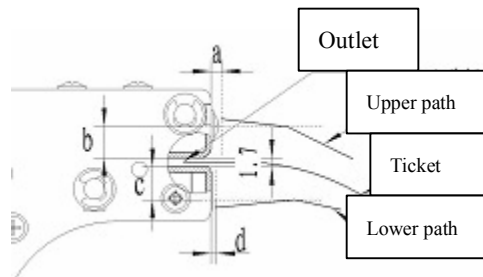

Figure 4.7-7 Paper out interface 1
- 1). When you adopting paper holding or paper backing for paper out mode, please refer to figure 4.7-7 Paper out interface 1